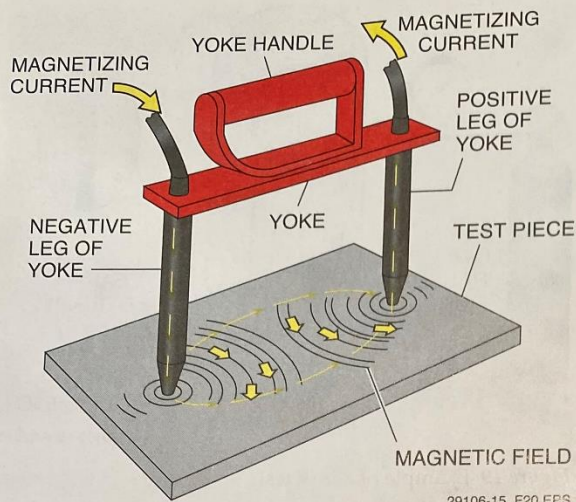

Figure 20 Magnetic particle examination with electromagnetic yokes.
Magnetic particle inspection (MT) is a non-destructive examination method that uses electricity to magnetize the weld that will be examined (Figure 20). After the metal has been magnetized, metal particles are sprinkled onto the weld surface. If there are defects in the surface or just below it, the metal particles will be grouped into a pattern around the defect. The defect can be identified by the shape, width, and height of the particle pattern.